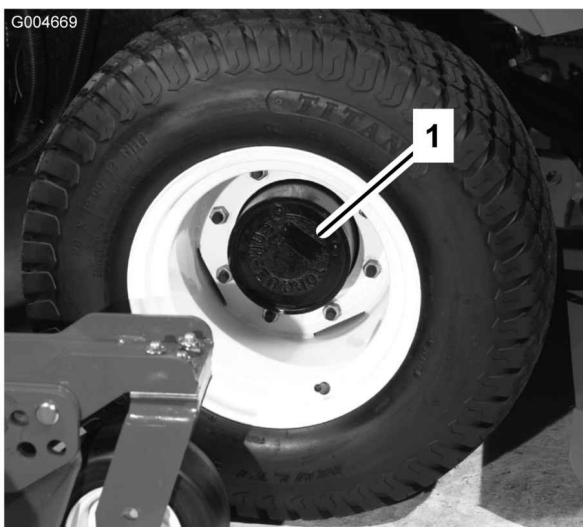
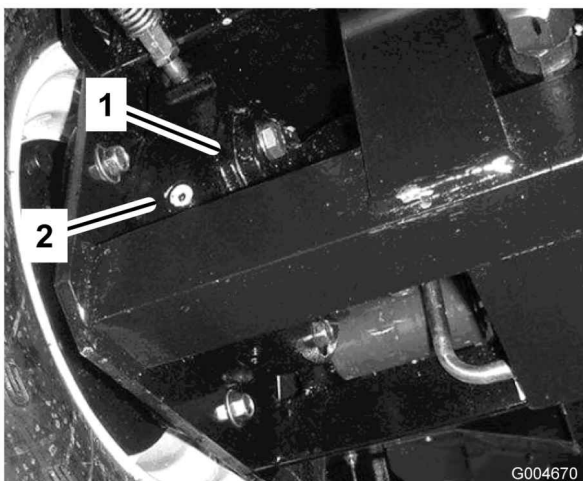

Figure 10
Figure 11
1. With the machine on a level surface, position the wheel so that the check/drain plug (Figure 10) is at either the 2 or 10 o'clock position.
2. Remove the plug on the planetary (Figure 10) and check the plug on the back side of the brake (Figure 11). Oil should be at the bottom of the check plug hole on the back side of the brake.